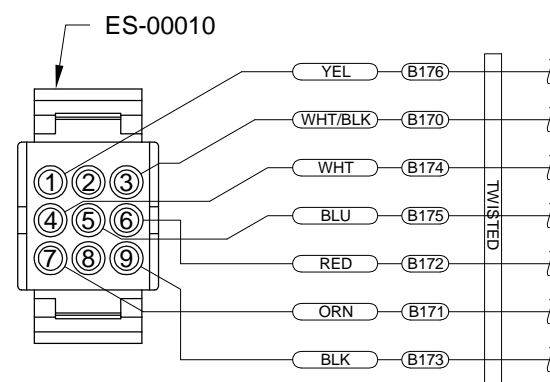

FIGURE 1: WH-B170 CONNECTION TO ROLL SERVO
Step 3: Insert the seven WH-B170 Autopilot Harness wires into an ES-00010 Molex Plug, 9 Position as shown in Figure 1. Numbers identifying the wire positions are molded into the back of the connector.